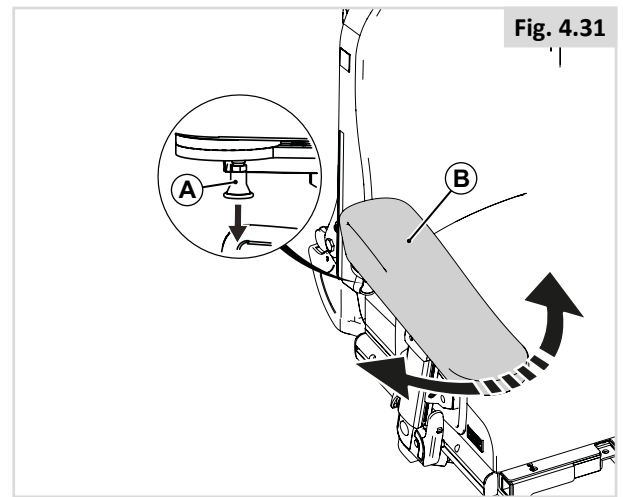

Fig. 4.31
1. Loosen (A) by one turn.
2. Adjust (B) to the desired position.
3. Tighten (A).
4.9 Hemiplegia armrest (Fig 4.31)